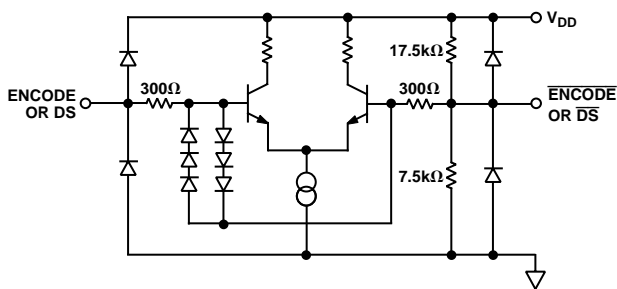

Figure 5. Equivalent ENCODE and Data Select Input Circuit
³t_v and t_{PD} are measured from the threshold crossing of the ENCODE input to valid TTL levels of the digital outputs. The output ac load during test is 5 pF (Refer to equivalent circuits Figures 5 and 6).
ENCODE and Data Select (DS) can be driven differentially or single-ended. For single-ended operation, the complement inputs ($\overline{\text{ENCODE}}$, DS) are internally biased to $V_{\text{DD}}/3$ (~1.5 V) by a high impedance on-chip resistor divider (Figure 5), but they may be externally driven to establish an alternate threshold if desired. A 0.1 μF decoupling capacitor to ground is sufficient to maintain a threshold appropriate for TTL or CMOS logic.
Note the 6-diode clock input protection circuitry in Figure 5. This limits the differential input voltage to $\sim \pm 2.1$ V. When the diodes turn on, current is limited by the 300Ω series resistor. Exceeding 2.1 V across the differential inputs will have no impact on the performance of the converter, but be aware of the clock signal distortion that may be produced by the nonlinear impedance at the converter.